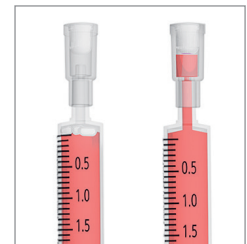

Figure 3.
4. Remove the heparinized aspirating syringe from the stopcock and immediately fit the filter cap to the aspirating syringe Luer. Hold the aspirating syringe with the Luer end up, gently tap the syringe to dislodge any air bubbles, and slowly expel the air bubbles into the filter cap (**Figure 3**).